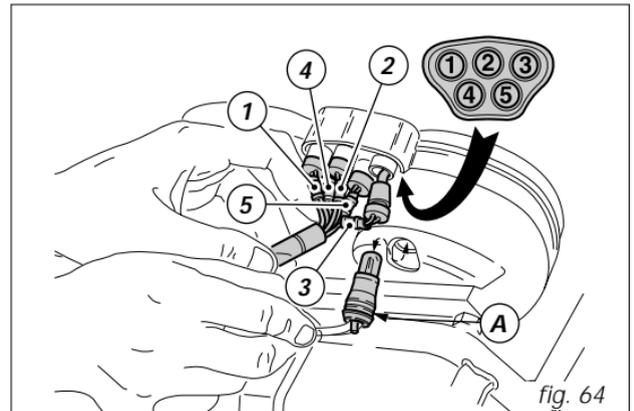

fig. 64
**Instrument panel (fig. 64)**